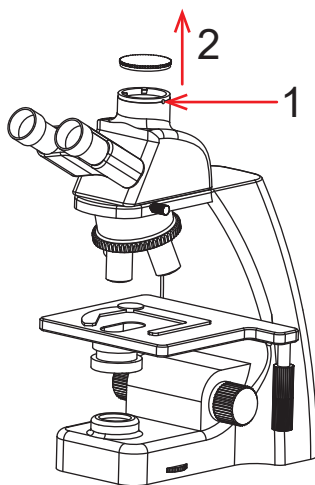

Figure 11
- (1) Remove the dust cover of microscope dovetail slot or standard C -mount, as shown in Figure 11.